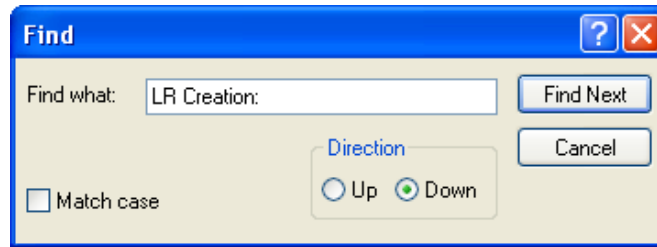

Figure 2.2
- 2.5 Use the 'Find' function to search for sensor readings by opening the 'Find' dialog box in the 'Edit' menu. Search for "LR Creation" as shown below in Figure 2.2.